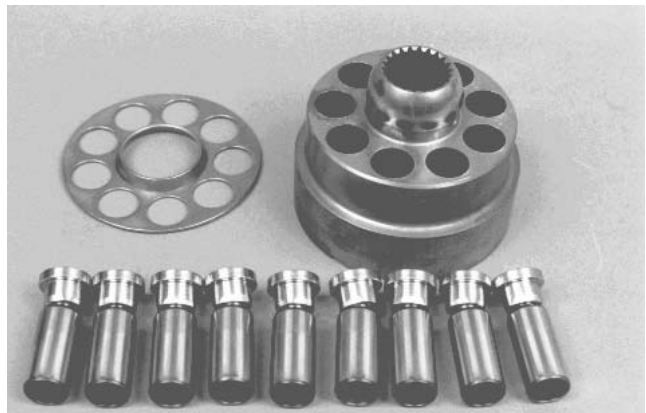

Figure 44
8. Remove slipper guide and piston assemblies from cylinder blocks (Fig. 44).